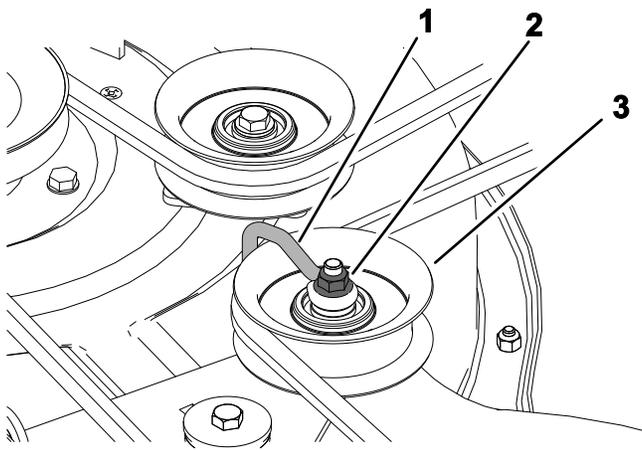

Figure 56
6. For decks with 3 blades, loosen the nut securing the wire form to the idler pulley (Figure 56).
- Note:** Position the wireform against the idler arm as shown in Figure 56.